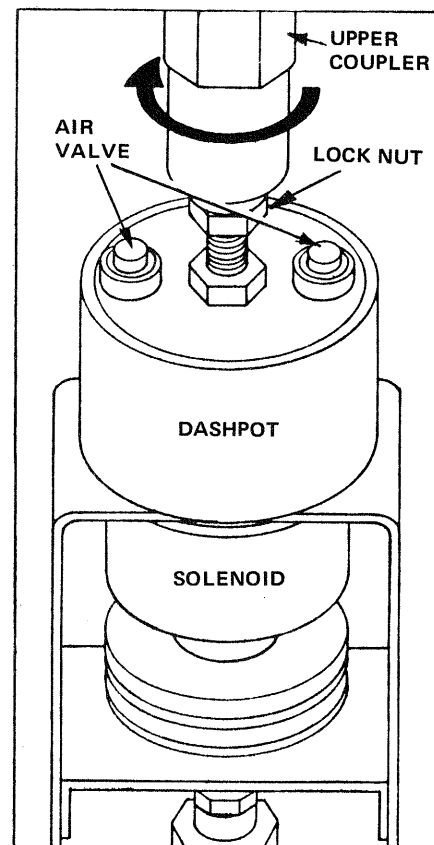

FIGURE 9-14 Pedal Solenoid parts identification.
- A. Loosen the Lock Nut on the Upper Coupler (see FIGURE 9-14), turn the Upper Coupler CLOCKWISE a turn or two, strike and release groups of Keys, and listen for notes being sustained. Repeat this procedure until the notes are no longer sustained, then tighten down the Lock Nut until it is finger tight. In turning the Upper Coupler CLOCKWISE, you are shortening the length of the SUSTAIN Dowel. See the NOTE on the next page.